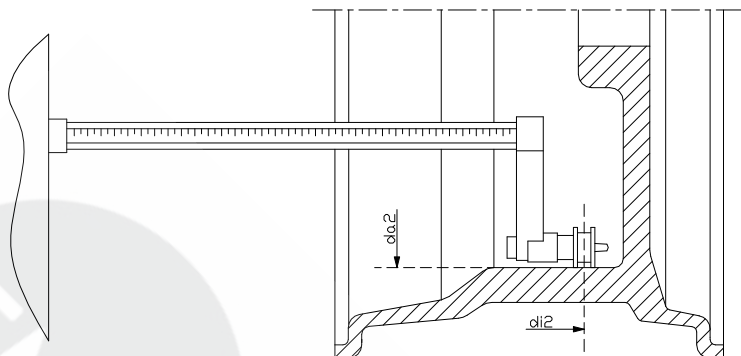

Figure F3.9 - Automatic acquisition of the external plane distance in the ALS1 and ALS2 Program Type
4. Extract the Distance/Diameter sensor and place it on the plane chosen as the external plane. See figure F3.9;
6. Extract the Distance/Diameter sensor and place it on the rim corresponding to the external plane chosen to apply the balancing weight. See figure F3.9;